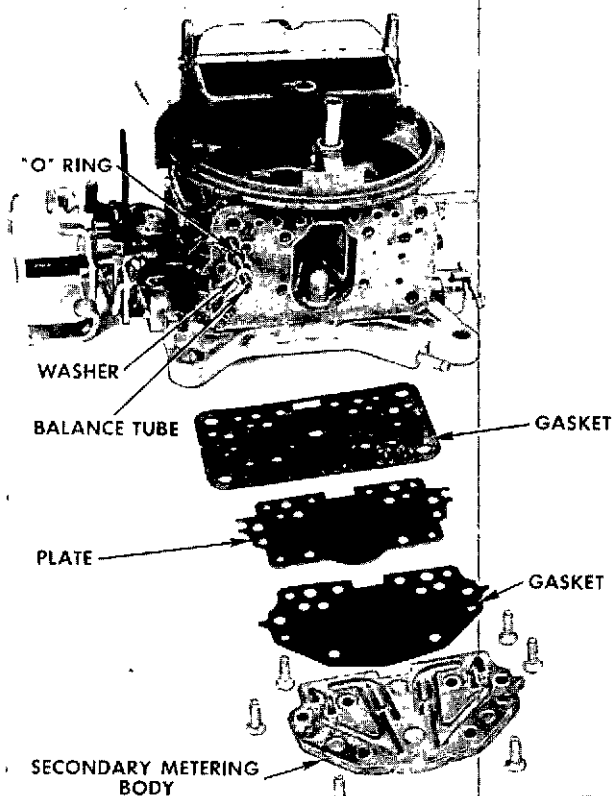

FIG. 37 Removal or Installation of Secondary Metering Body (Model 4160)
15. Remove secondary metering body plate and gaskets from main body (Figure 37). **NOTE: A clutch head screwdriver must be used. Do not attempt to make one from a regular screwdriver. Remove balance tube washers and "O" ring.**
- B. Install a new secondary metering body (plate) to main body gasket followed by the metering body (plate) (Figure 37). Install six clutch head screws. Tighten evenly and securely with a proper clutch head screwdriver.